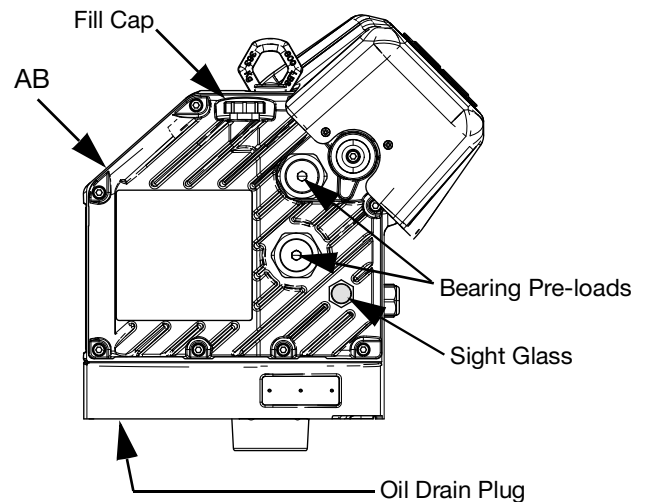

FIG. 32: Sight Glass and Oil Fill Cap
3. Remove the oil drain plug. See FIG. 32 for the location of the drain plug. Allow all oil to drain from the Driver (AB).
See FIG. 32 below. Check the oil level in the sight glass on a regular basis. The oil level should be near the half-way point of the sight glass when the Driver (AB) is not running. If the oil is low, open the fill cap and add Graco Part No. 16W645 ISO 220 silicone-free synthetic EP gear oil.